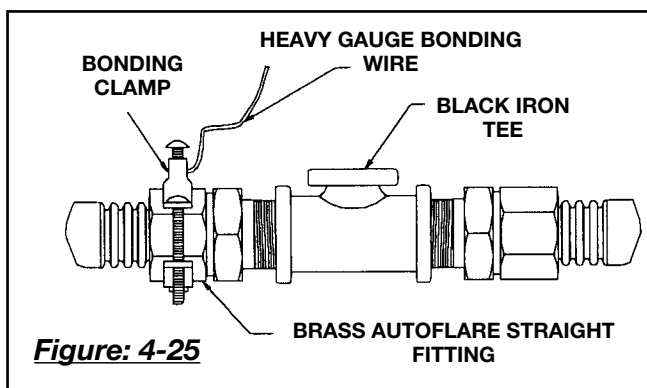

Figure: 4-25
- When additional bonding of the **CounterStrike**[®] or **TracPipe PS-II**[®] system is required by local codes, a bonding clamp must be attached to either the brass **AutoFlare**[®] fitting adapter (See Figure: 4-25), or to a black pipe component (pipe or fitting) within the gas piping system. The corrugated stainless steel portion of the gas piping system SHALL NOT be used as the bonding attachment